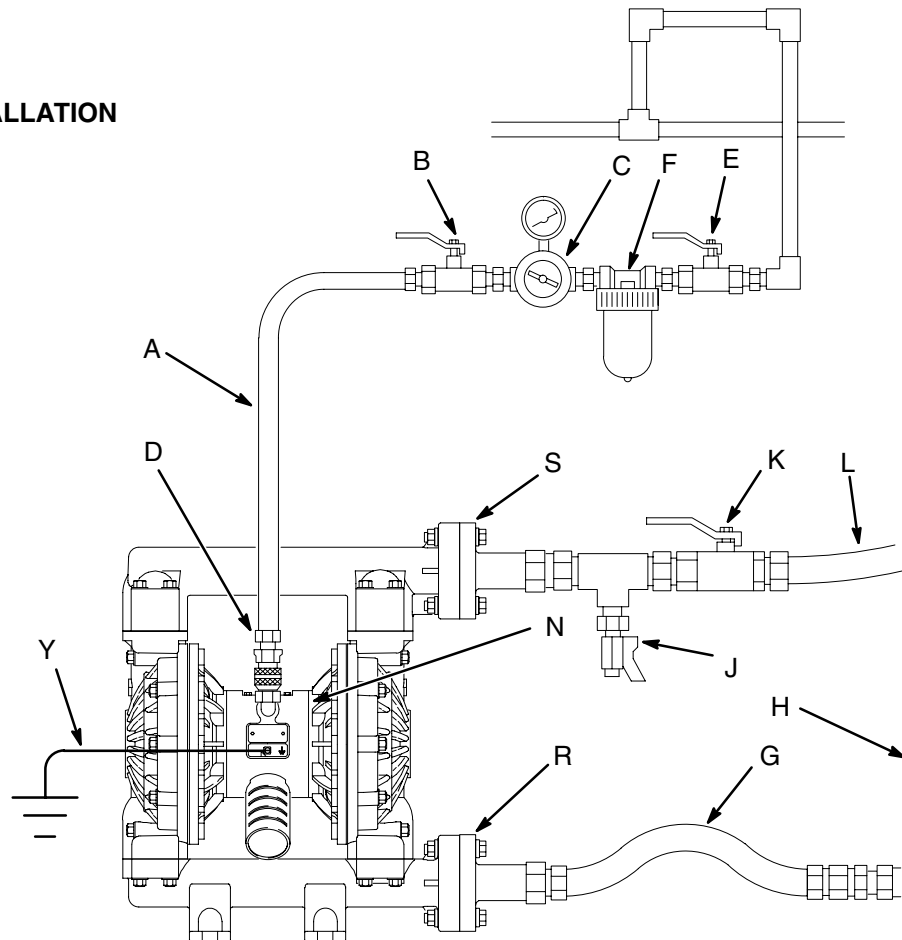

Fig. 2
1. The Typical Installation shown in Fig. 2 is only a guide for selecting and installing system components. Contact your VERDER Customer Service for assistance in planning a system to suit your needs.
A bleed-type master air valve (B) is required in your system to relieve air trapped between this valve and the pump. Trapped air can cause the pump to cycle unexpectedly, which could result in serious injury, including splashing in the eyes or on the skin, injury from moving parts, or contamination from hazardous fluids. See Fig. 2.
1. Install the air line accessories as shown in Fig. 2. Mount these accessories on the wall or on a bracket. Be sure the air line supplying the accessories is electrically conductive.
- a. Install an air regulator (C) and gauge to control the fluid pressure. The fluid outlet pressure will be the same as the setting of the air regulator.
- b. Locate one bleed-type master air valve (B) close to the pump and use it to relieve trapped air. See the **Warning** at left. Locate the other master air valve (E) upstream from all air line accessories and use it to isolate them during cleaning and repair.
- c. The air line filter (F) removes harmful dirt and moisture from the compressed air supply.
2. Install an electrically conductive, flexible air hose (A) between the accessories and the 1/2 npt(f) pump air inlet (N). See Fig. 2. Use a minimum 13 mm ID air hose.
3. Screw an air line quick disconnect coupler (D) onto the end of the air hose (A); be sure the coupler porting is large enough to not restrict the air flow, which will affect pump performance. Screw the mating fitting into the pump air inlet snugly. Do not connect the coupler (D) to the fitting until you are ready to operate the pump.
KEY FOR FIG. 2
A fluid drain valve (J) is required to relieve pressure in the hose if it is plugged. The drain valve reduces the risk of serious injury, including splashing in the eyes or on the skin, or contamination from hazardous fluids when relieving pressure. Install the valve close to the pump fluid outlet. See Fig. 2.
1. The pump fluid outlet (S) is a 1–1/2 in. raised face flange. Refer to **Flange Connections** on page 8.
2. Install a fluid drain valve (J) near the fluid outlet. See the **Warning** above.
3. Install a shutoff valve (K) in the fluid outlet line.